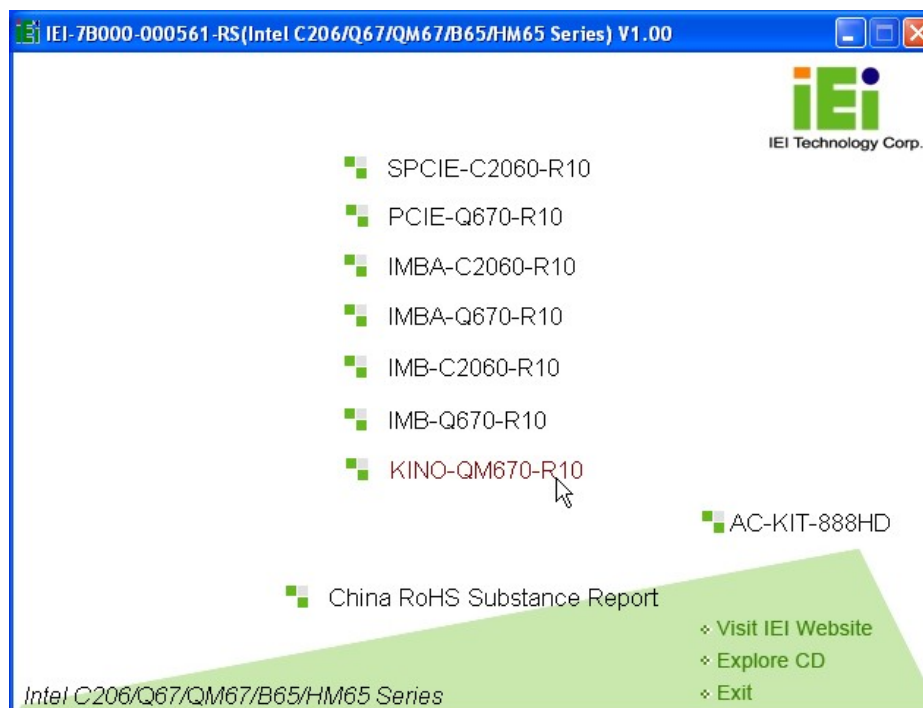

Figure 4-20: Introduction Screen
Step 2: The driver main menu appears (**Figure 4-20**).